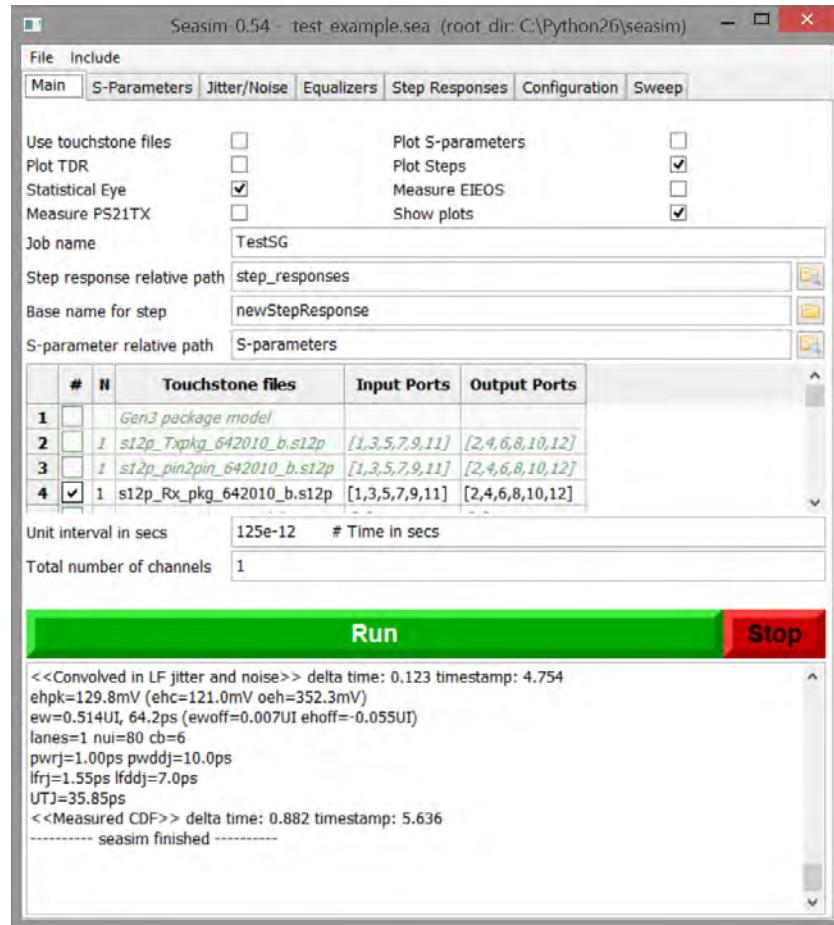

FIGURE 94 SEASIM MAIN SETUP
- Check the options on top save, as shown in Figure 94.